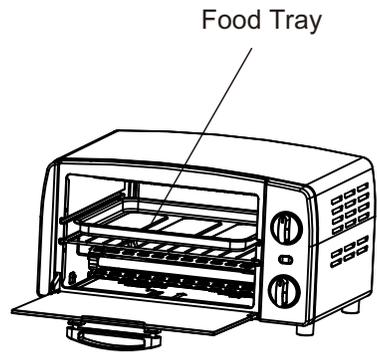

fig.6.
**NOTE :** DO NOT let juices run to the bottom of the oven. Use the Food Tray when cooking. See fig.6.